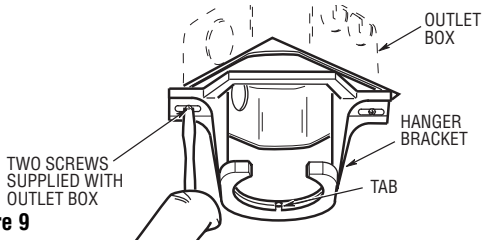
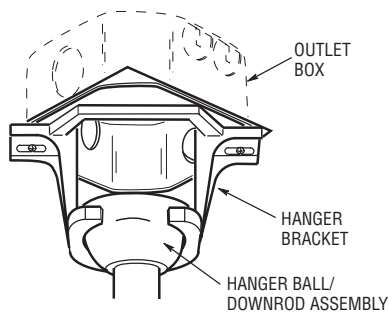

Figure 9
Figure 10
- 1. Securely attach the hanger bracket to the outlet box using the two screws supplied with the outlet box. (Figure 9.)
- 2. Carefully lift the fan and seat the hanger ball/downrod assembly on the hanger bracket that was just attached to the outlet box (Figure 10). Be sure the groove in the ball is lined up with tab on the hanger bracket (Figure 9).